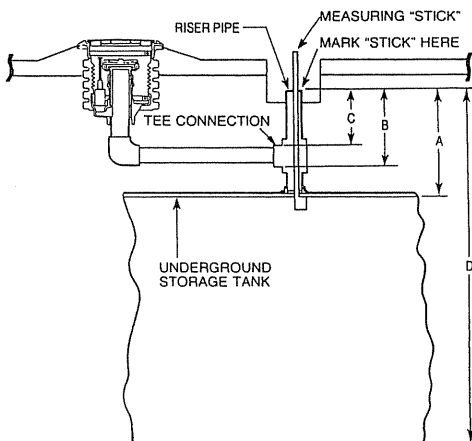

FIGURE 1
To complete this installation you'll need three (3) measurements of the tank's riser pipe and one measurement of the tank and riser combined (see A, B, C and D in Figure 1).
The below system of measurement is setup for a conventional remote layout using a 4" x 4" x 4" threaded tee as shown in Figure 1. For riser pipe and tank configurations other than that shown, consult installation drawings or use other necessary means to measure and layout dimensions "A", "B", "C" and "D".
With a tape measure, obtain measurements "B" and "C" (see Figure 1). Measurement "B" is the distance from the top of the tank riser to the bottom of the remote tee horizontal opening. Measurement "C" is the distance from the top of the tank riser to the top of the remote tee horizontal opening.
Measuring from the flange, mark the overall length of the drop tube a minimum distance of "D" minus 6" or as per local codes or requirements. Determine dimension D from the measurements taken in Step 1, Figure 1. Saw off the excess material at an angle of 45 degrees and remove sharp burrs.